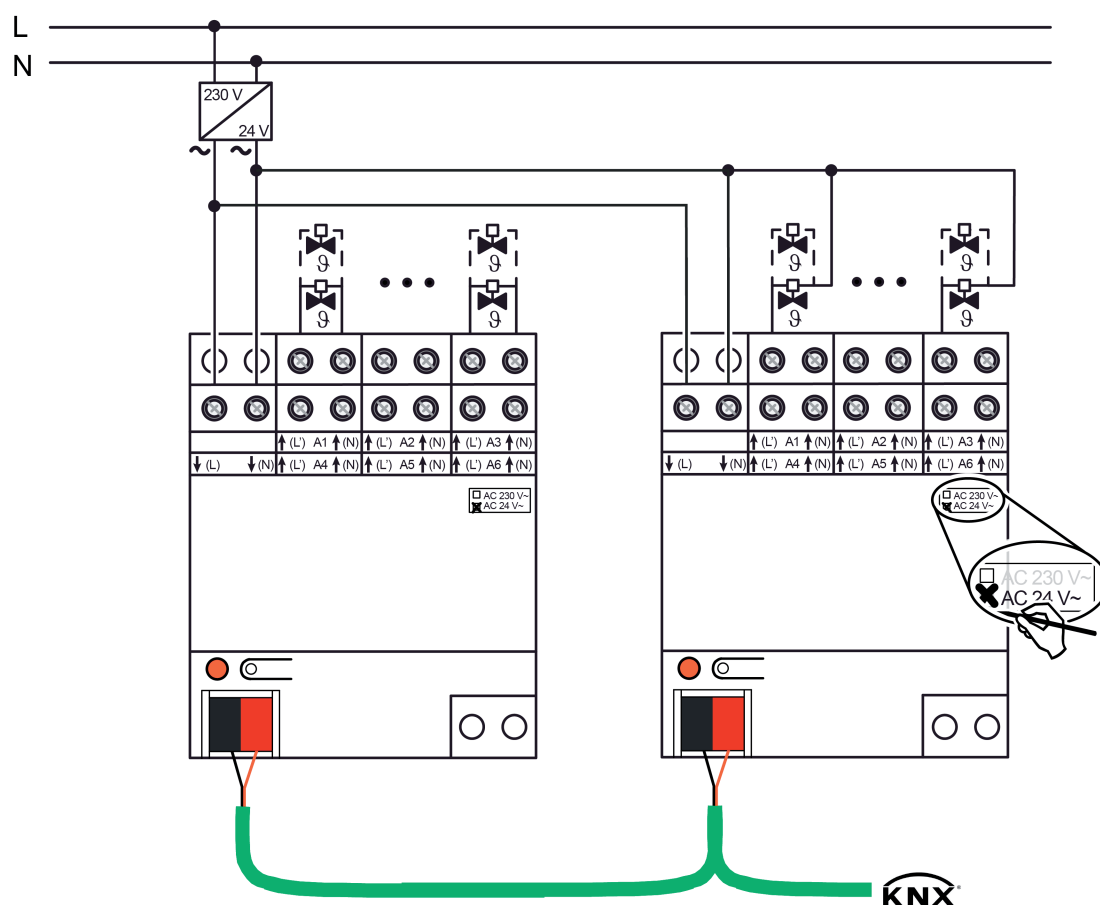

Figure 3: Connection for actuators AC 24 V
- Connect the AC 24 V valve drives according to the connection diagram (Figure 3). It is possible to connect the actuators individually and directly with the terminals of the outputs of the heating actuator (left-hand connection example) or, alternatively, using a shared conductor (right-hand connection example).